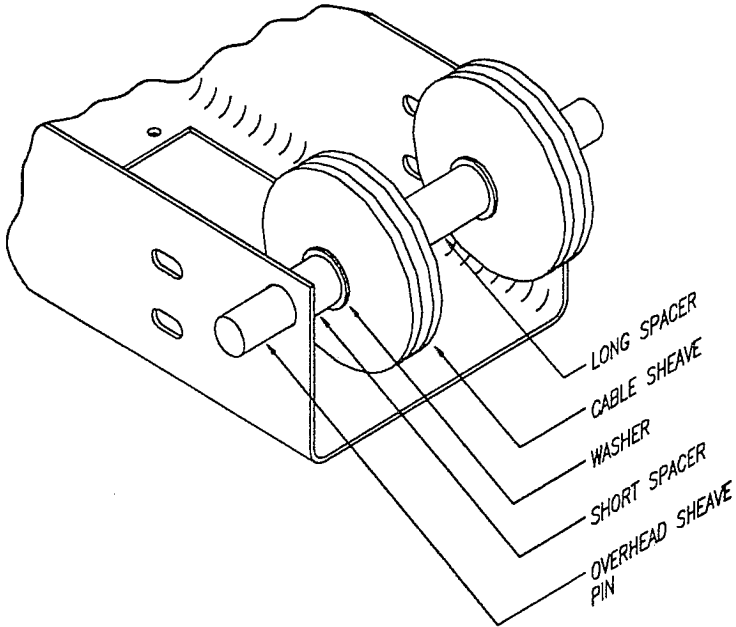

Fig 4
6. Assemble the synchronizer cable sheaves, axles, and spacers in the synchronizer cable channel as shown in **Figure 4**.